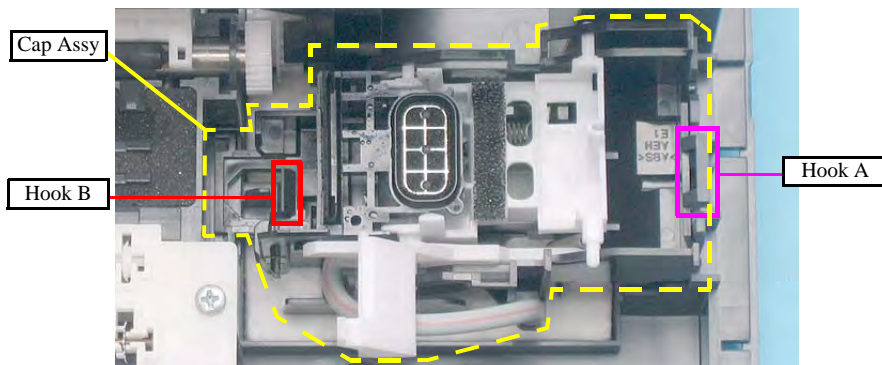

Figure 4-51. Removing Ink System (1)
2. Place the Cap Assy and match the tabs (x2) and lock them. (refer to Figure 4-51)